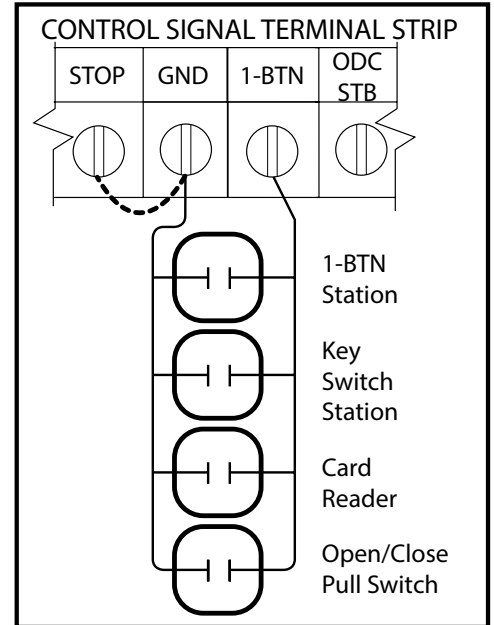

FIG. 2
2. For single button accessory controls, make connections as shown in FIG. 2.